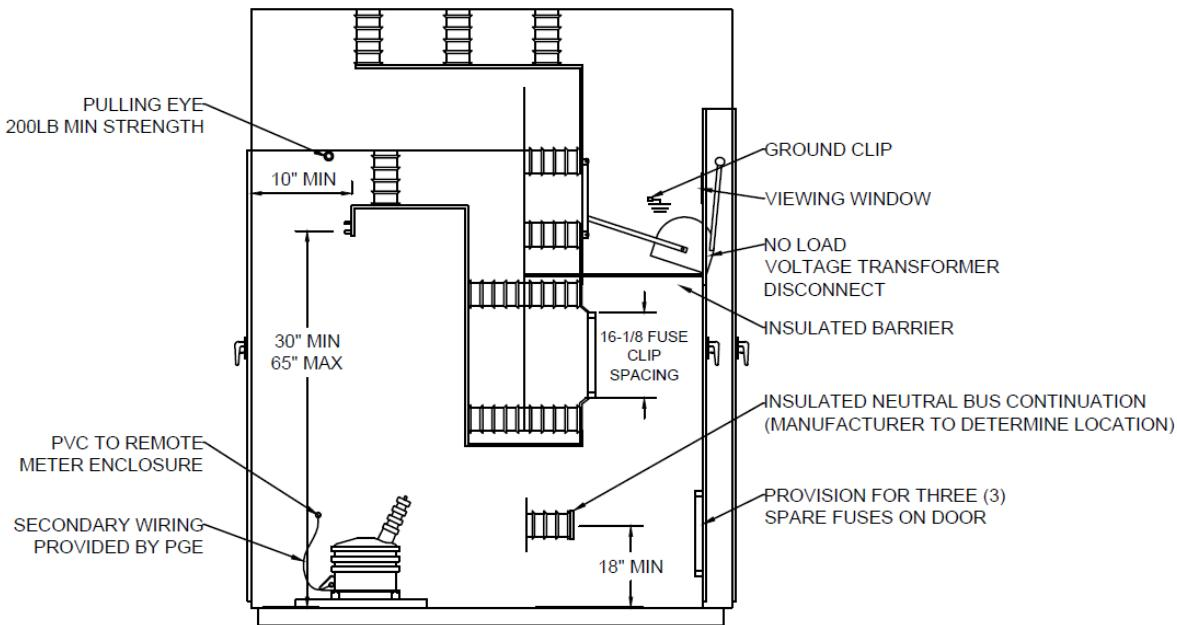

Figure 19. VT Compartment for 34.5 kV (STD-M-3600)
- For 34.5 kV services, the VT compartment are required to meet the clearances shown in Figure 19.